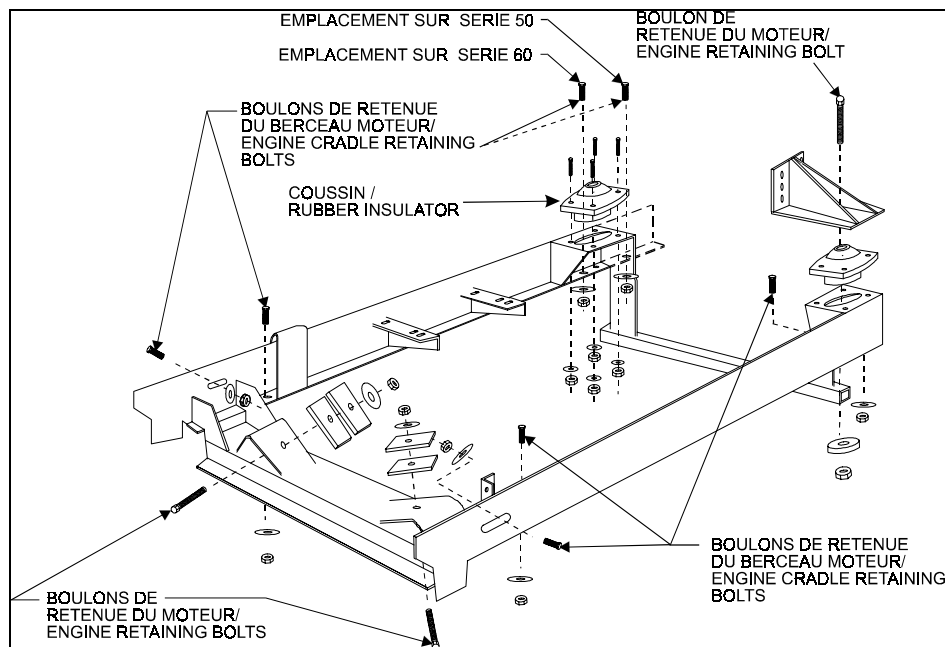

FIGURE 1: ENGINE CRADLE, ALL VEHICLES
6. Remove the six engine cradle retaining bolts (see figure 1). Note the location of any shims between the cradle and the frame side rail, for reassembly.
7. Remove the 4 engine retaining bolts (refer to figure 1).
10. Remove the 8 bolts securing the engine rubber insulators (see figure 1).